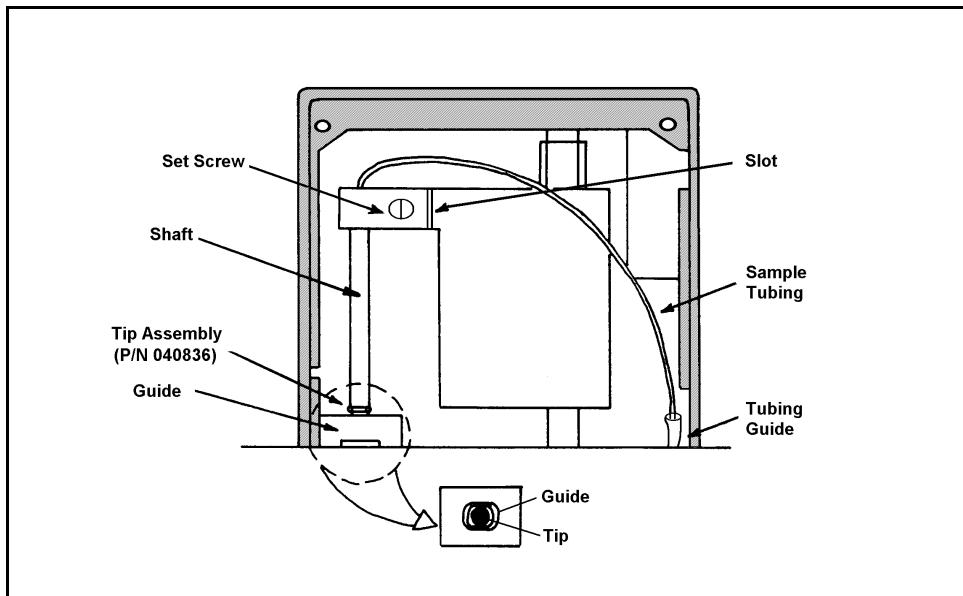

Figure 5-2. Replacing the Sampling Tip Assembly
7. Remove the two screws from the plastic cover on the right side of the sample head cover (as seen from the front of the sampler) and remove the cover. Locate the set screw in the sampling head mechanism (see Figure 5-2) and loosen it until you can slide the shaft down and to the right, out of the mechanism.
11. Continue threading the free end of the tubing up through the sampling head mechanism and slide the sampling shaft into place. Align the flat sides of the sampling tip so that they fit through the oval hole in the guide (see Figure 5-2 inset). Make sure that the shaft is pushed as far as it will go up into the sampling head mechanism and then tighten the set screw firmly.